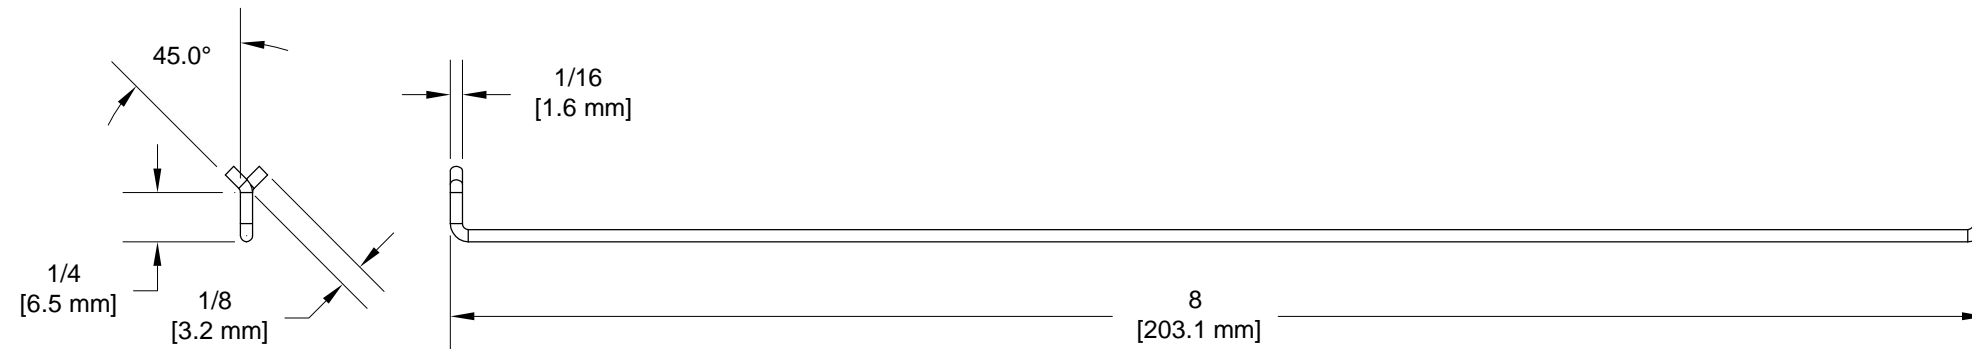

FIGURE 1: FLAP POSITION PUSHROD
Step 2: Fabricate the F-14127 Flap Position Pushrod from the supplied SSP-063 pin using the dimensions called out in Figure 1.